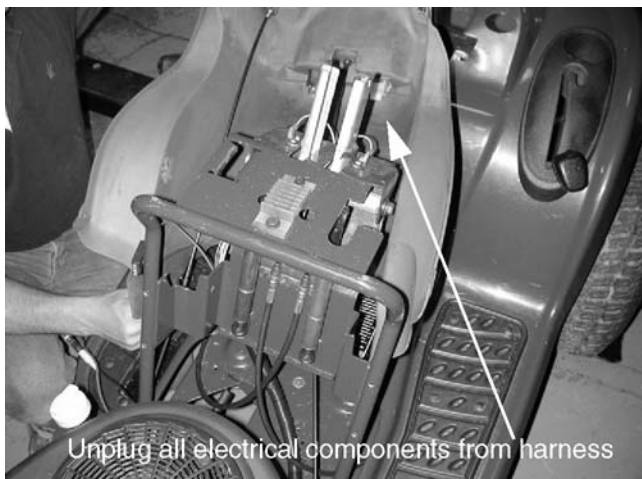

Figure 11-53
23. Unplug the key switch, hour meter, and PTO switch. See Figure 11-53.